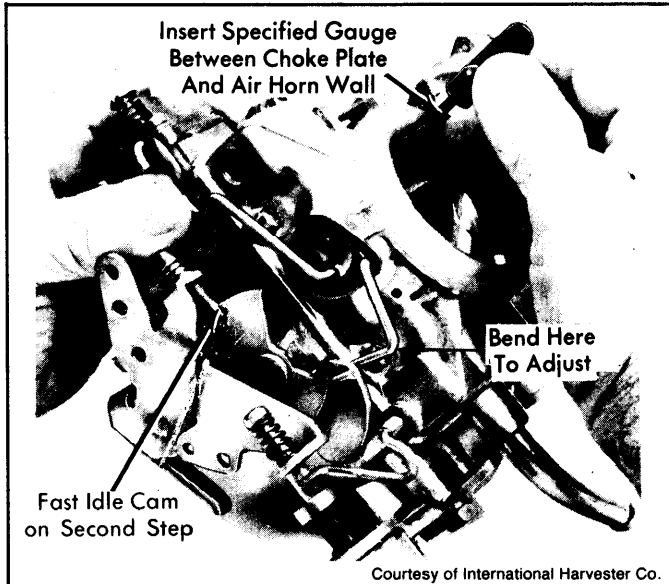

Fig. 3: Fast Idle Cam Position Adjustment
1) Place fast idle speed adjusting screw on second highest step of fast idle cam, against shoulder of high step. See Fig. 3.